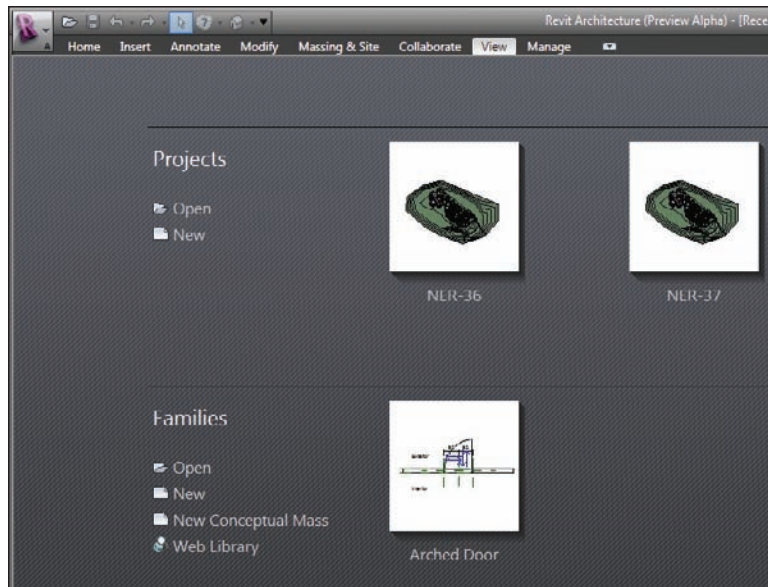

FIGURE 1.3 The Recent Files window lists any recent projects or families you have worked on.
2. After you start Revit, you see the Recent Files window shown in Figure 1.3. The top row lists any projects you have been working on; the bottom row lists any families you have been working on.